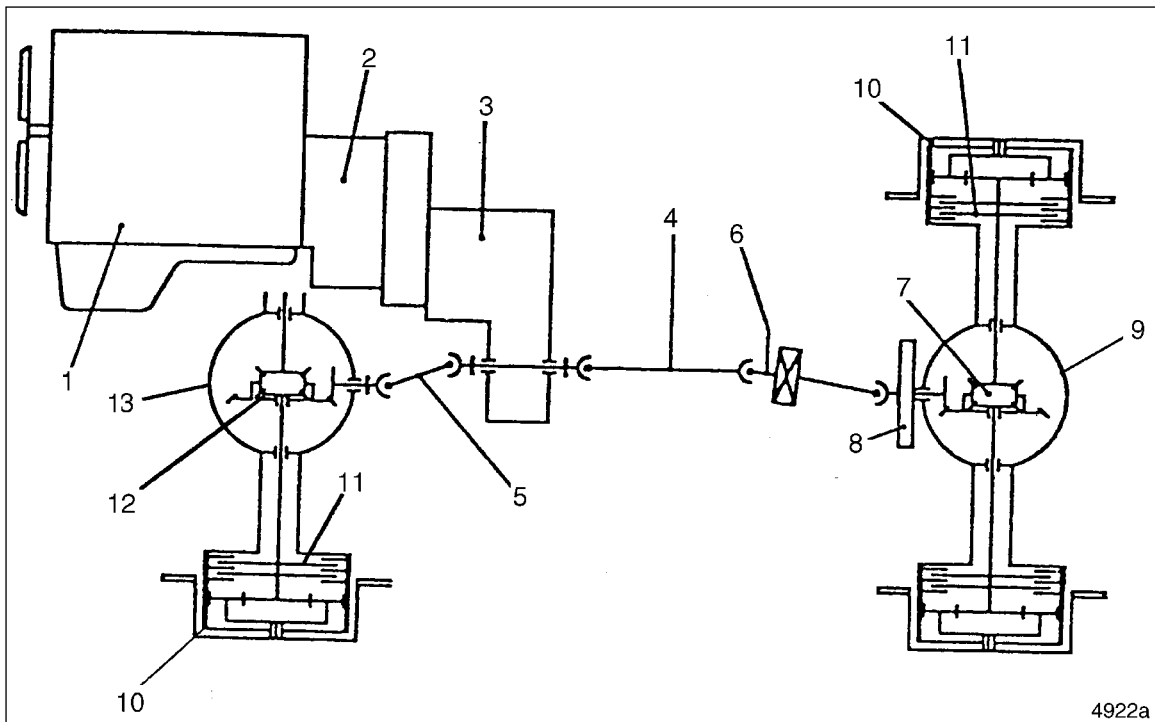

Figure 1
Figure 1, shows layout of drive train assemblies. The engine (1, Figure 1) drives a torque converter (2), which drives a power shift transmission (3). Two output shafts extend out of the transmission. Each output shaft has a drive shaft attached to it. Front drive shaft (4) drives a final drive shaft (6) that drives the front differential (7).
A parking brake (8, Figure 1) is mounted on the front differential input shaft. The front differential is enclosed in the front axle housing (9). Each end of the front axle housing contains reduction gearing (10). Each end of the front axle housing also contains a service brake (11). Rear drive shaft (5) drives the rear differential (12). The rear differential is enclosed in the rear axle housing (13). Each end of the rear axle housing contains reduction gearing (10). Each end of the rear axle housing also contains a service brake (11).